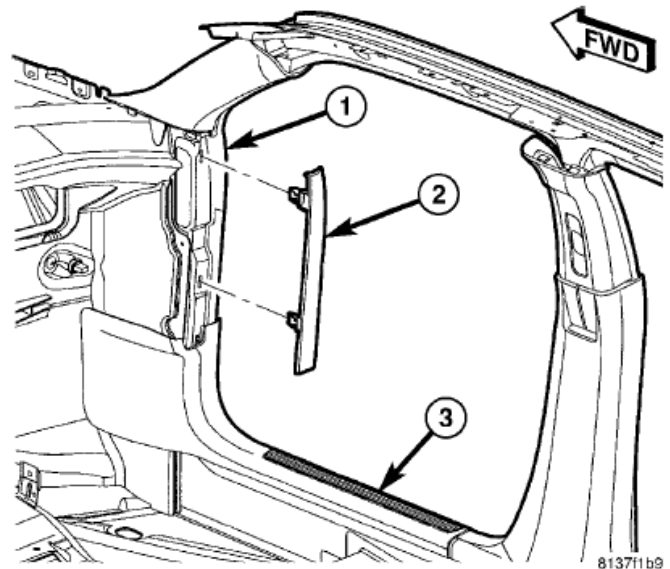

Fig. 1 Cowling Trim (2)
1. Using a trim stick or another suitable wide flatbladed tool, carefully pry the **LEFT SIDE** cowling trim (2) (Fig. 1) rearward from the front of the front door opening far enough to disengage the two spring clip retainers that secure the trim to the slots in the cowl (1) (Fig. 1).
8. Position the cowl trim (2) (Fig. 1) to the cowl (1) at the front of the front door opening and the sill trim (3).